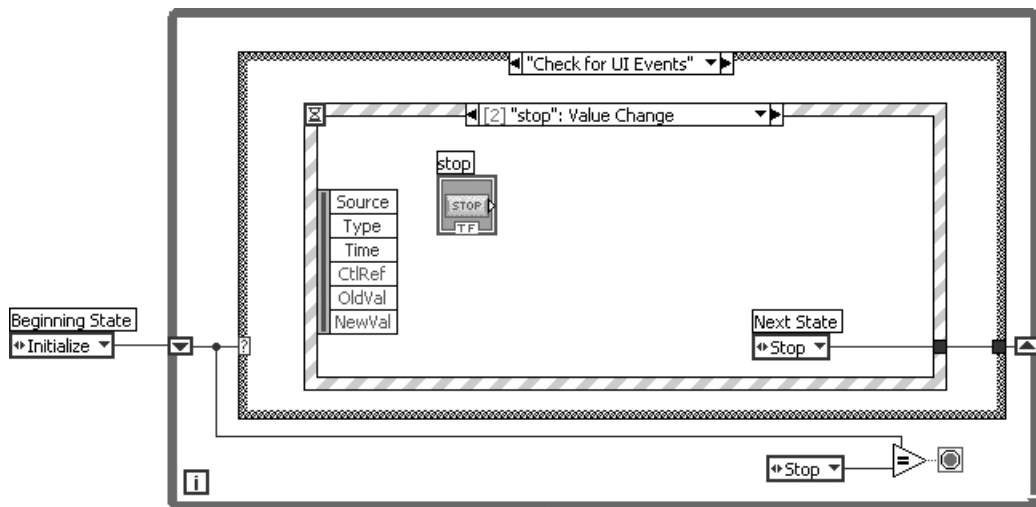

Figure 13.74
9. In the “Check for UI Events” case, place an Event Structure, as shown in Figure 13.74. Remove the “Timeout” event case. The Event Structure should have the following event cases:
The block diagram should now look similar to the one shown in Figure 13.74. Note that the time has been removed. It is not necessary because the event structure will wait patiently for any front panel events to occur.